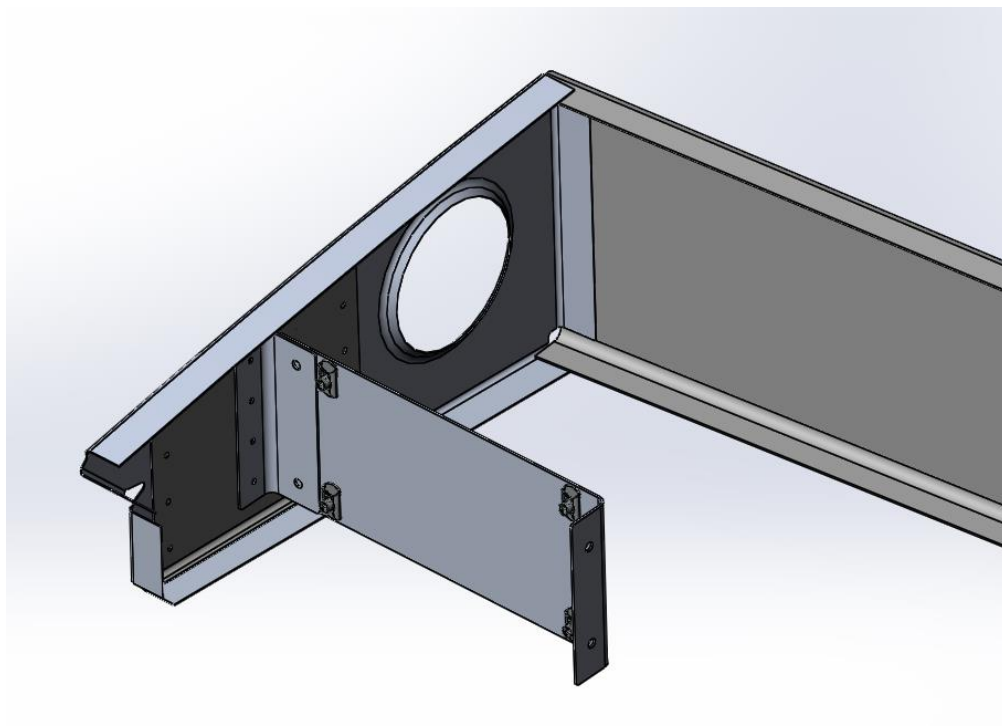

FIGURE 2-7 ANGLE AND MTG PLATE
1. Position the 1006251 mounting plate and align the outboard flange of the plate with the previous markings on WS 108.0 rib as depicted in Figures 2-7, 2-9, & 2-11.
3. Using the 1006252 angle holes as a guide use a center punch, or equivalent, to mark the hole locations into the W.S. 108.0 rib. Refer to Figure 2-7 & 2-11.